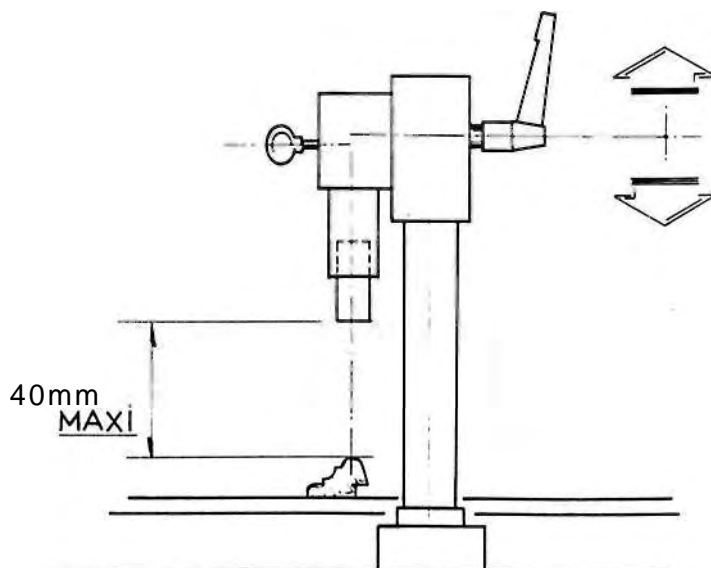

FIGURE 8
- Check that the travel between the top of the mouldint and the bottom of the bung does not exceed 40 mm (Fig. 8)